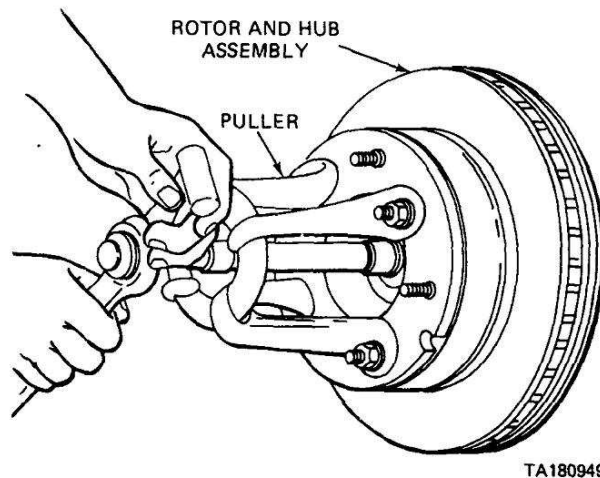

Figure 2-60. Removing Hub Assembly.
(6) Pull the hub and rotor assembly, using a puller (figure 2-60).